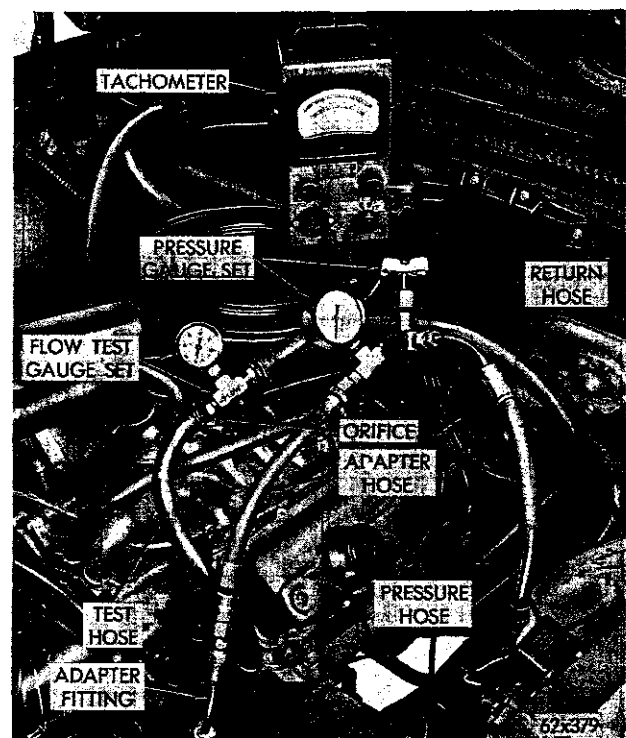

Fig. 51—Flow Test Gauge Connections (Typical)
(1) Inspect the pump belt tension. See "Cooling System".
(2) Disconnect the pump pressure hose at the power steering pump and connect the test hose adapter tube and pressure gauge Tool C-3309B with the proper adapters between the power steering pump and the hose disconnected from the pump (Fig. 51).
(4) Install the flow checking gauge set Tool C-3885 with the special hose between the power steering pump and the return hose disconnected from the pump (Fig. 51).